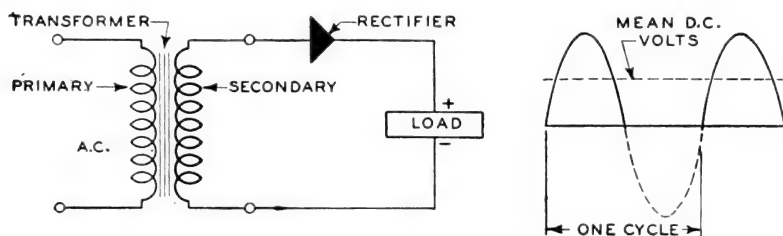
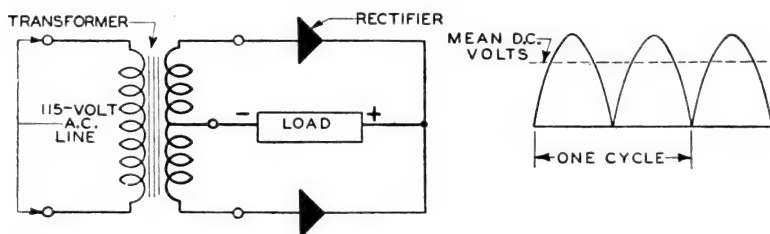
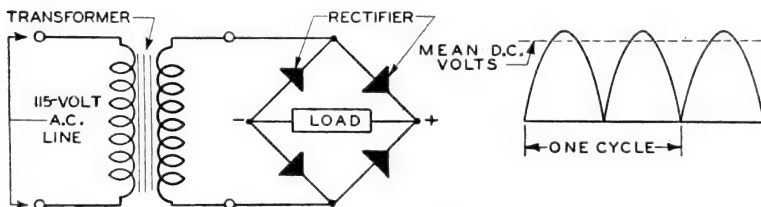

Fig. 9. Single-Phase Half-Wave Rectifier Circuit and Voltage Wave
Fig. 10. Single-Phase Full-Wave Center-Tapped Rectifier Circuit
Fig. 11. Single-Phase Full-Wave Bridge-Type Rectifier Circuit
Usually a *transformer* is found necessary to reduce the voltage of the circuit before current is sent through the unit itself. There are a few applications where this is not found necessary. If one unit is used alone a *half-wave* is rectified. This circuit with *transformer* is shown in Fig. 9. When two *rectifier units* are used in a circuit, as shown in Fig. 10, a *full wave* is the result. A much better arrangement for full-wave rectification is the four-unit rectifier connected in *bridge formation* as shown in Fig. 11. The bridge method results in a much smoother current in the rectified circuit.
assembled in stacks in much the same manner as the copper-oxide washers, and the hookups in which they are used in circuits are the same. These circuits are shown in Figs. 9, 10, and 11.
*terminals* are connected to the *transformer* and *load* as shown in Fig. 11.